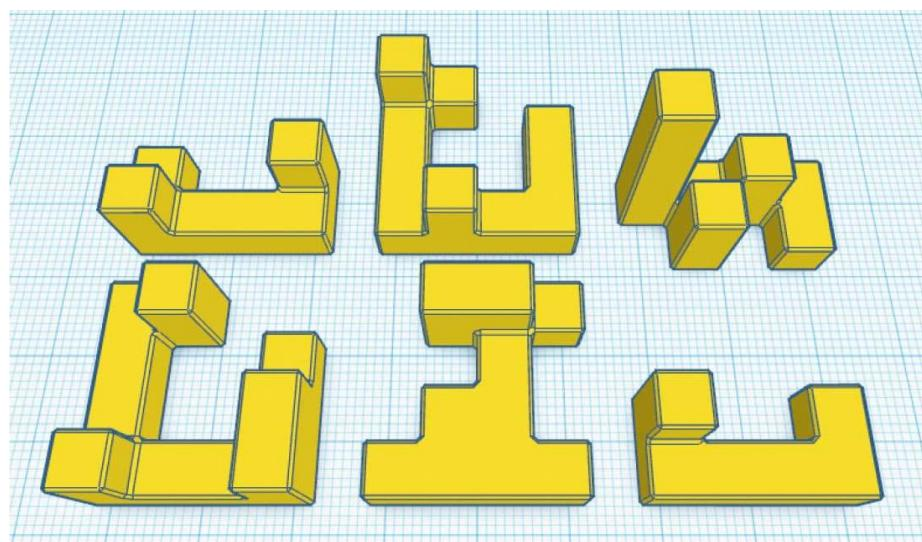

FIG. 2: The edited puzzle pieces are half the size of the originals.
5. Make any edits you desire. We edited the puzzle pieces to half their original size (fig. 2).